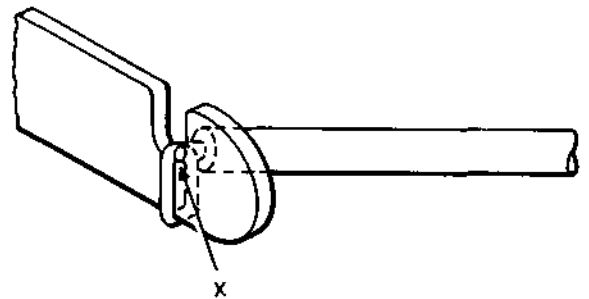

Fig. 4—Termination of Wire on Protector (notch on upper side of terminal)
8.05 To terminate a wire on the terminal of a protector where the notch appears on the upper side of the terminal as shown in Fig. 4, bring the wire through the notch, down the front side, and up the rear side, making one complete turn of bare wire around the terminal. Break the excess wire at point "X". 20-gauge wire may be cut instead of broken.